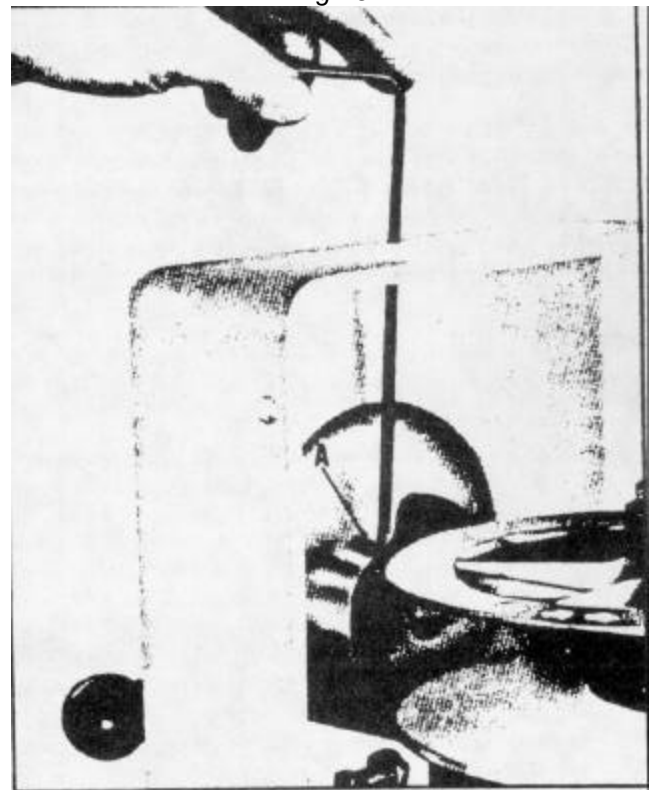

Fig. 6
A drag plug or "dampener" is provided to restrict the free rotation of the pilot wheel. The drag plug is properly adjusted at the factory so that the drill press will hold a constant speed and will not change speeds even on long production runs, but still the pilot wheel can be turned manually to change speeds as desired. If it ever becomes necessary to change the adjustment, use a long allen wrench and insert it down through the hole located in the top of the guard, as shown in Fig. 6. Turn the set screw (A) Fig. 6, clockwise to increase or counter-clockwise to decrease the "dampener" pressure on the pilot wheel.